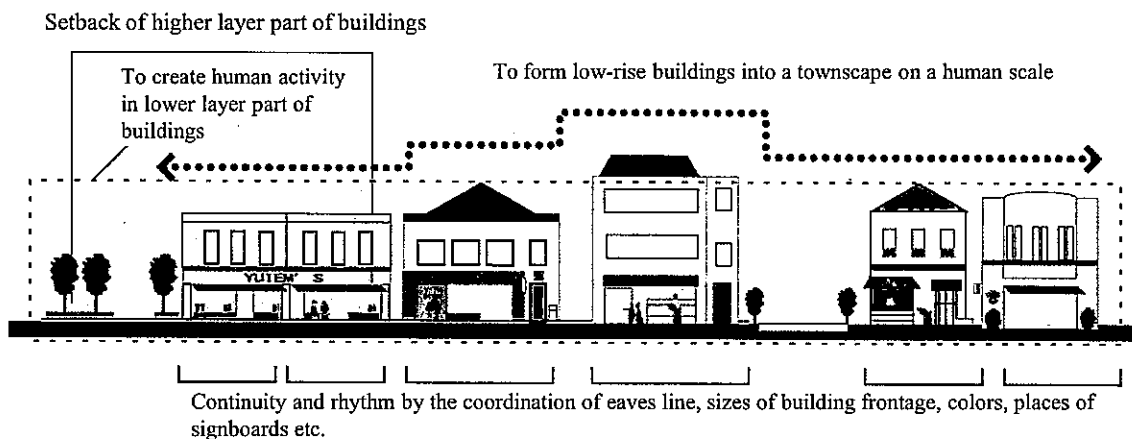

Figure 1 An example of basic policies of the townscape formation in a commercial area
- (3) Figure 1 shows a basic policy concerning the townscape formation in a commercial area presented in the landscape plan of a city. It is intended to realize an attractive street space for pedestrians by forming low-rise buildings into a townscape on a human scale.
- a) Both total coordination and diversity of building designs are necessary to create fascinating street spaces for pedestrians. From this aspect, explain the design ideas shown in Fig.1 in about five lines.
- b) Impressions of street space depend on the proportion of the width of streets D to the height of buildings H . Give an example of D/H appropriate for the townscape shown in Fig.1, and explain the reason referring to your design image of the street space, in about seven lines.